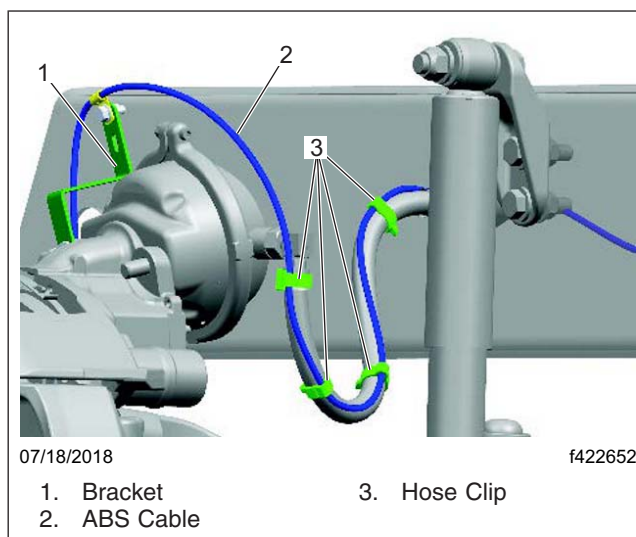

Fig. 3, Routing the ABS Cable
12. Using hose clips, route the ABS cable along the brake hose as shown in Fig. 3